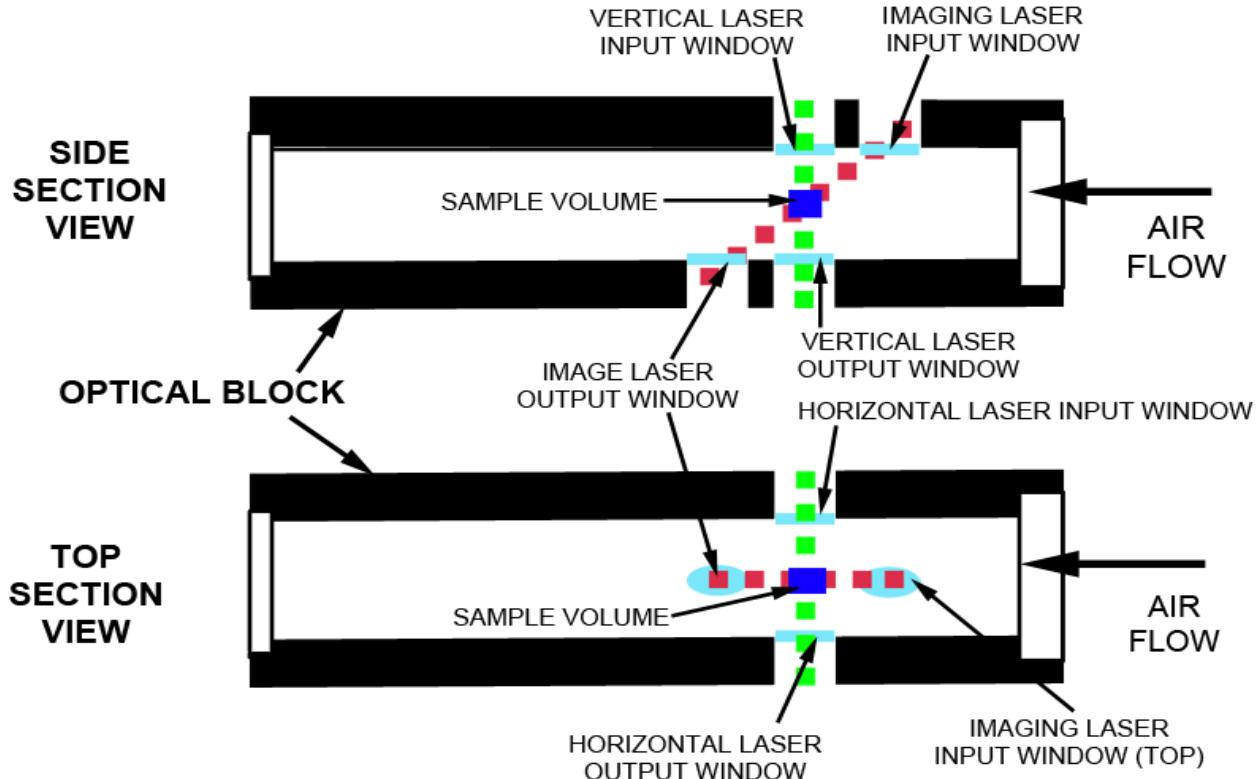

Figure 4.1.1 Cutaway of optical block showing laser beam and window locations
Sections 4.1.1-4.1.3 show and describe the optical components introduced in **Section 1**. Each section shows the laser (transmit) and image (receive) path for the respective components. The horizontal (90) and vertical (45) are perpendicular both to each other and the flow of particles. The CCD imaging system is tilted 45 degrees from the vertical channel towards the incoming flow of particles. **Figure 4.1.1** shows their locations in diagram form.